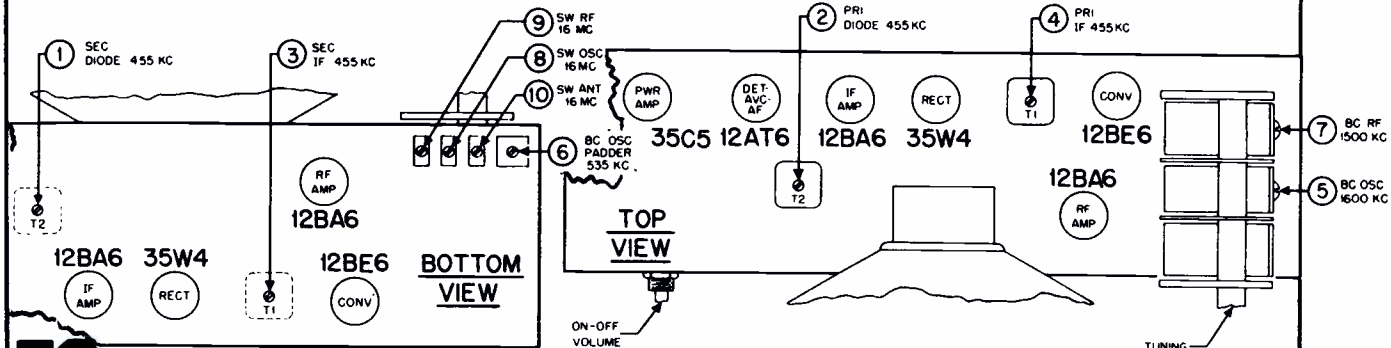

FIGURE 5. TUBE AND TRIMMER LOCATION
7. See Figure 5 for adjustment locations and the following chart for procedure. NOTE: The BC band must be aligned before SW. If the BC band trimmers are adjusted, the SW must also be realigned.